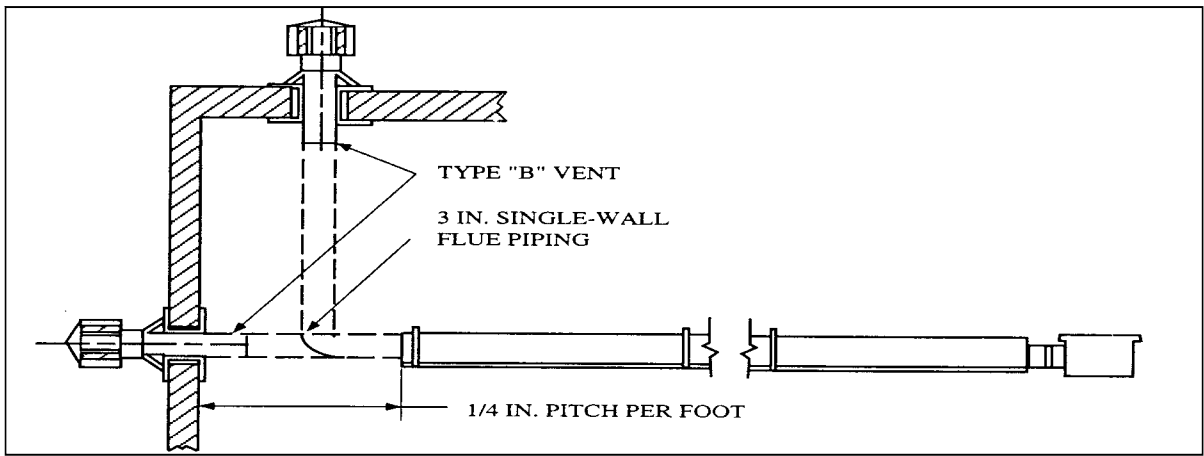

Figure 1-15
- Horizontal vents should be pitched down to-ward outlet,  $\frac{1}{4}$  in. per ft. of the vent length, to prevent rain from entering the heater (Figure 1-15). Do **not** pitch heater.